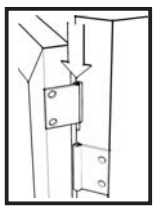

Figure 2
Attach Doors (I) and (J) by sliding the door lift hinges into the side panels lift hinges (See figure 2).